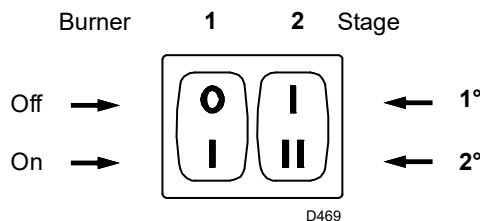

Fig. 18
- Start the burner by closing the control devices and with switch 1)(Fig. 18) in the "ON" position. The pump must rotate in the direction of the arrow marked on the cover.
- The pump can be considered to be primed when the light oil starts coming out of the screw 4) or 8). Stop the burner: switch 1)(Fig. 18) set to "OFF" and tighten the screw 4) or 8).